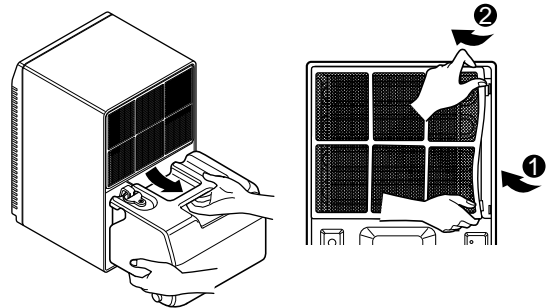

Figure 5
3. Remove the bucket. (See Figure 5)
4. Flex the filter at the lower right corner and take it off. (See Figure 5)